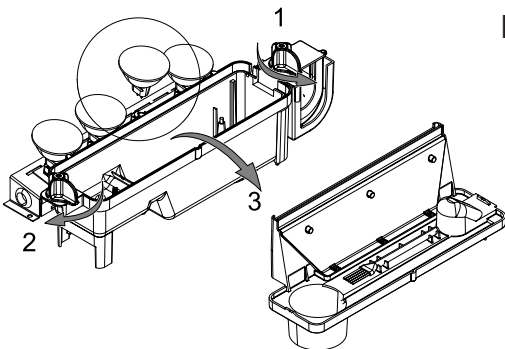

Fig.4
7. Release the left sump locking tabs by turning 90°, then lift off the Nozzle. (See Fig.4)